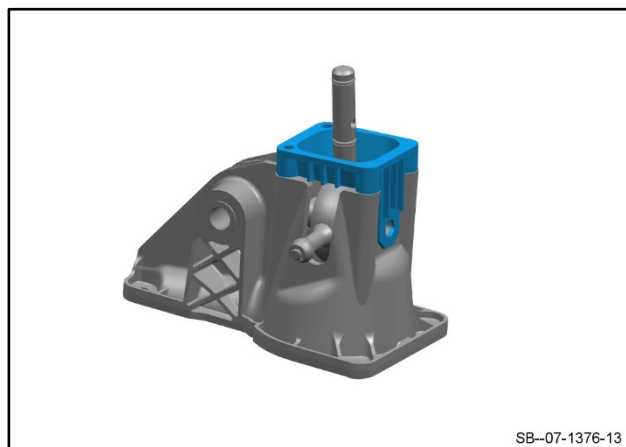

Figure 11
12. Put the new travel stop into position (refer to Figure 11).